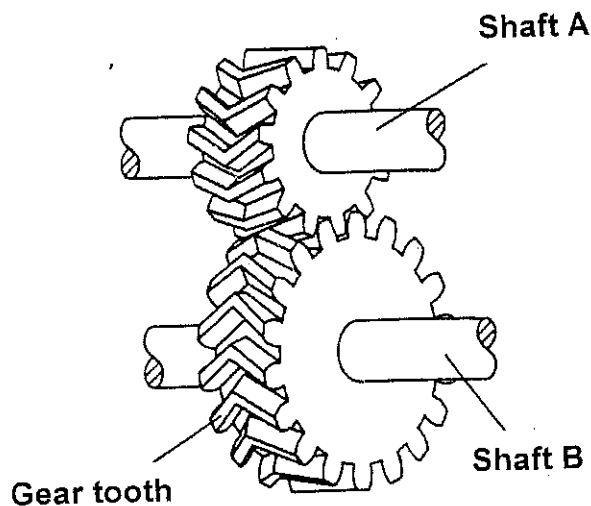

FIGURE 1
1.2 Refer to FIGURE 1 of the gear assembly and answer the following questions: